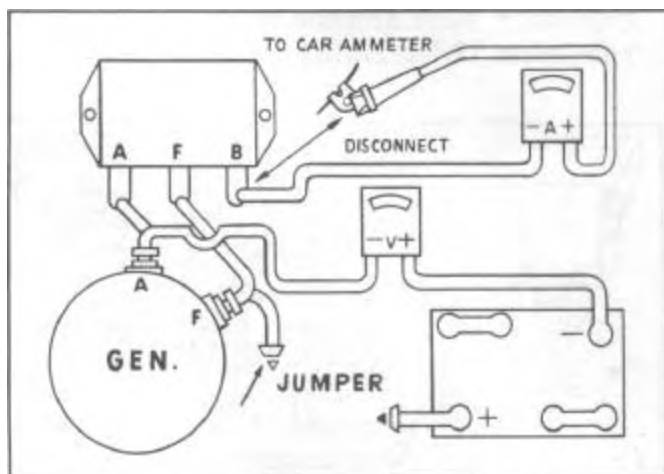

FIGURE 13
1. Disconnect battery lead at voltage regulator "B" terminal; connect the ammeter negative lead to the regulator "B" terminal and the positive lead to the wire disconnected from the regulator, Figure 13.